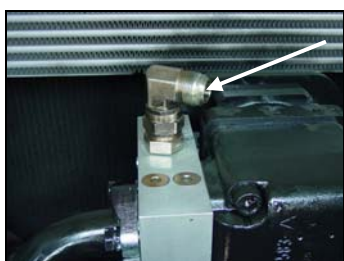

Figure 24 Install 90 degree elbow
23. Install one 90 degree elbow, 054-2988-10, on the straight connector. (Figure 24)